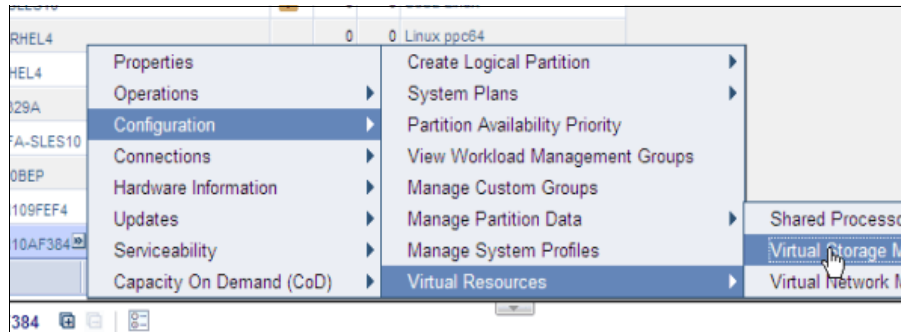

Figure 3-12 HMC: Selecting Virtual Storage Management for the selected server
2. In the HMC window, expand **Systems Management** and click **Servers**. In the right pane, select the server on which the VIOS and IBM i client partitions are located, expand the menu at the server, and select **Configuration** → **Virtual Resources** → **Virtual Storage Management** (Figure 3-12).